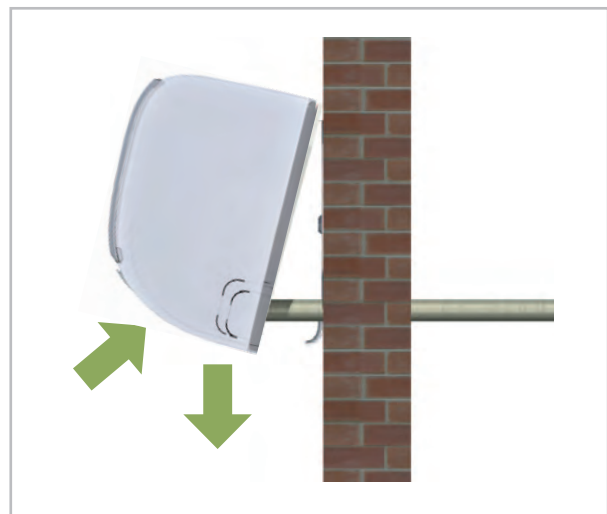

Fig. 33: Horizontal positioning
5. ➤ Check again that the unit is level. (Fig. 33)